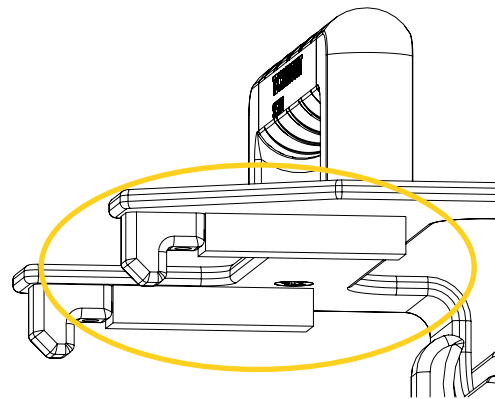

Figure 24: Installing the new EPDM foams
5. Align and stick a new 3/8 in. X 1/2 in. X 2 in. EPDM foam behind each retainer of the mobile top plate (Figure 24).